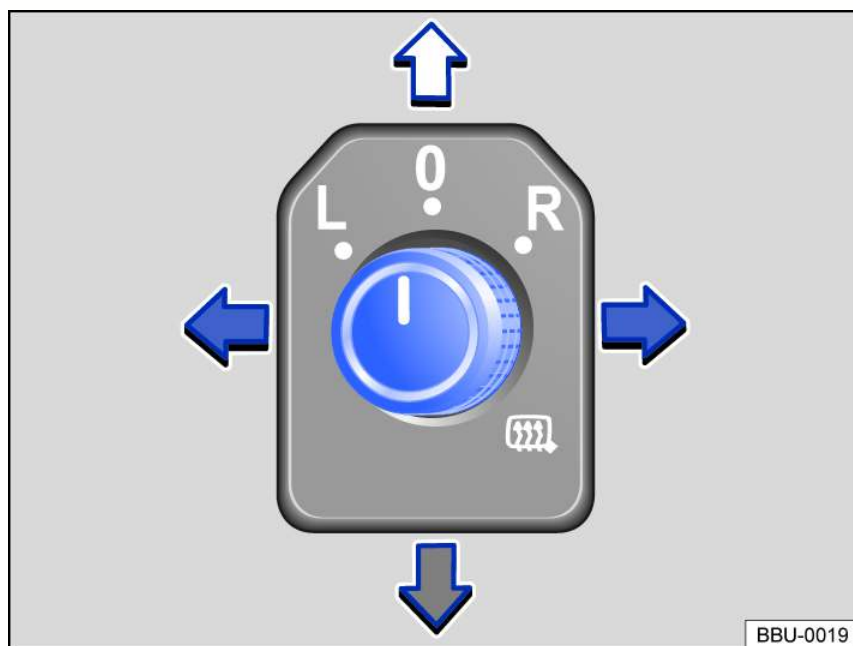

Fig. 80 In the driver door: knob for the outside mirrors.
2. Turn the knob in the driver door to the preferred symbol fig. 80.